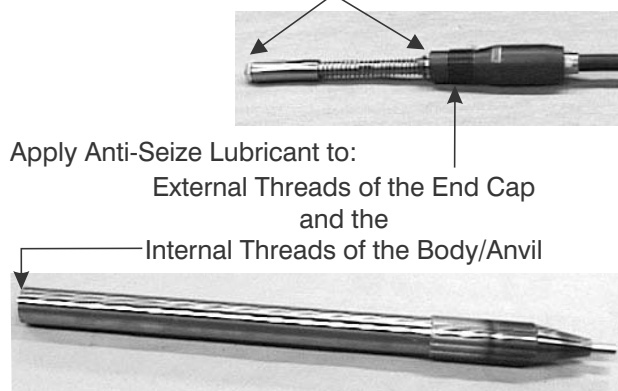

Figure 11-30. Prepare Tail Assembly and Body Anvil for Assembly.
2. Apply anti-seize thread lubricant sparingly to the threads of the End Cap (16) and the Body/Anvil (1). Refer to Figure 11-30.
3. With the exception of the End Cap (16) and Whip Hose (18), lightly coat the tail assembly components with hydraulic fluid.